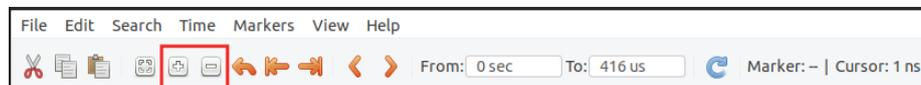

Figure 85. Zoom in
- Zoom in several times so that you can view the clock signal change (Figure 85).